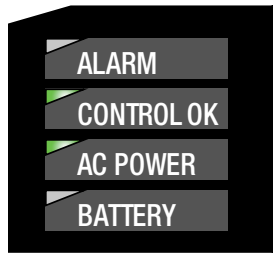

Figure 37. Control OK and AC POWER LEDs
4. Verify the Control OK LED is illuminated on the control operator panel. The AC POWER LED indicates the presence of AC power (Figure 37).
During a battery test a 5Ω, 55 watt resistor is placed across the battery terminals for approximately 5 seconds. The SPEAR single-phase recloser control measures the battery voltage, if the voltage drops below 22.8 VDC the BATTERY LED illuminates (Figure 37) and a battery alarm is issued, if configured, at the end of the test.